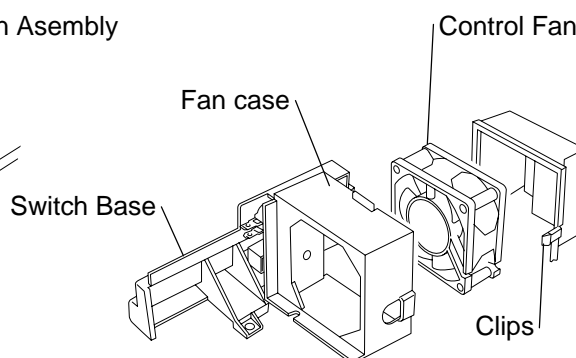

Fig.7-32
- 3) Remove the fan motor from the fan case after releasing the fan cover plastic clips. (Fig.7-32)